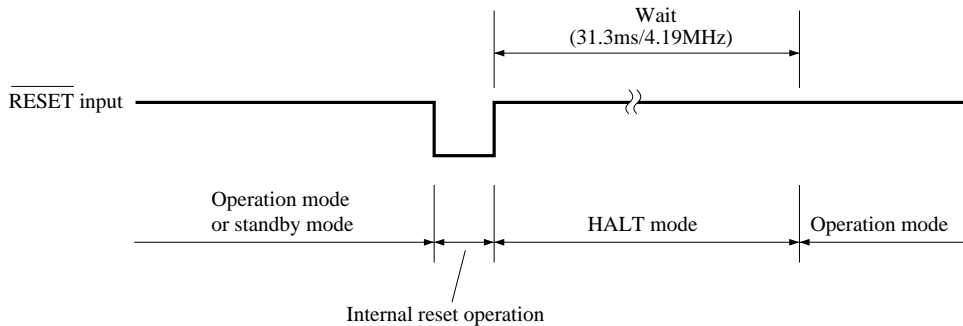

Fig. 8-1 Reset Operation by  $\overline{\text{RESET}}$  Input
When the  $\overline{\text{RESET}}$  signal is input, the μPD75512(A) is reset and each hardware is initialized as indicated in Table 8-1. Fig. 8-1 shows the reset operation timing.